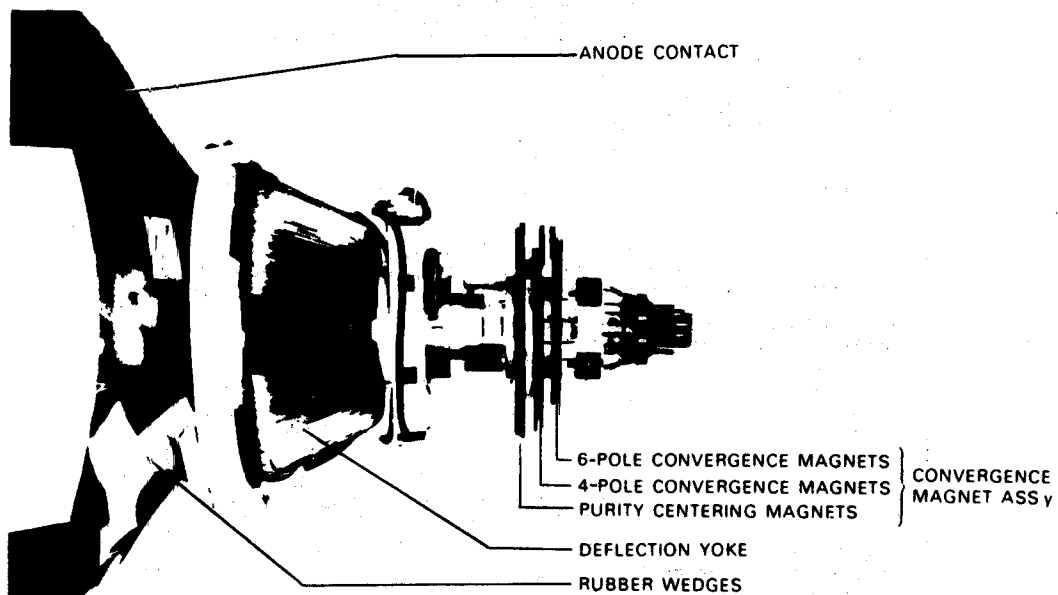

Figure 6
- 3.2 A pair of 4-pole convergence magnets is provided to converge the blue and red beams (see Figure 6). When the pole opens to the left and right 45° symmetrically, the magnetic field is maximized. Red and blue beams move to the left and right (see Figure 5). Vary the angle between the tabs to adjust the convergence of red and blue vertical lines.
- 3.4 A pair of 6-pole convergence magnets is provided to converge the magenta (red + blue) to the green beams (see Figure 6). When the pole opens to the left and right 30° symmetrically, the magnetic field is maximized. Red and blue beams both move to the left and right (see Figure 5). Vary the opening angle to adjust the convergence of magenta to green vertical lines.